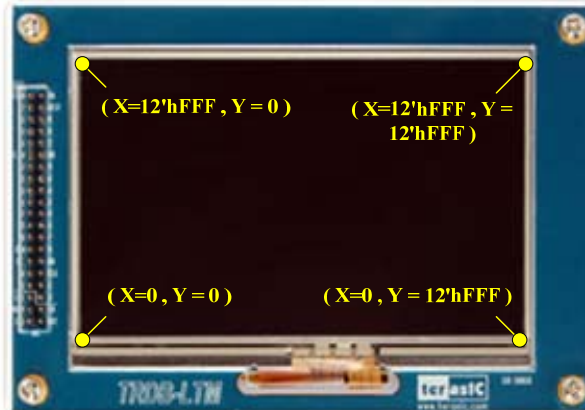

Figure 4.7 The x and y coordinates of the corners on the LTM touch screen
4. When users touch the LTM screen, the 7-segment displays "HEX6~HEX4" and "HEX2~HEX0" on the DE2 board will display the X and Y coordinates (in Hexadecimal format) of the touch point respectively (DE2 board only). Figure 4.7 indicates that the x and y coordinates of the corners on the LTM touch screen